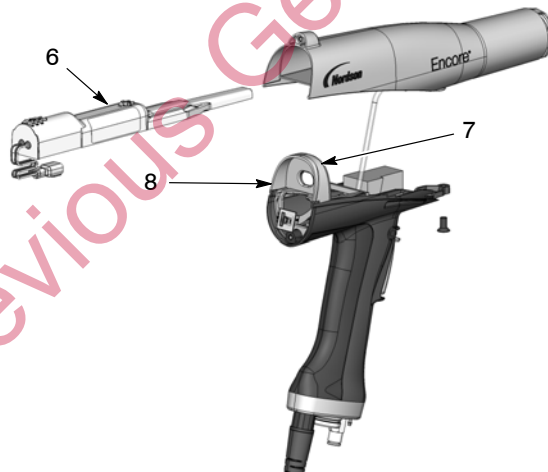

Figure 6-4 Removing the Power Supply from the Gun Body
1. See Figure 6-4. Slide the power supply (6) out of the gun body.
2. Check the gasket (7) on the back of the bulkhead (8). Replace it if it is damaged. The gasket is stuck to the bulkhead with pressure-sensitive adhesive.